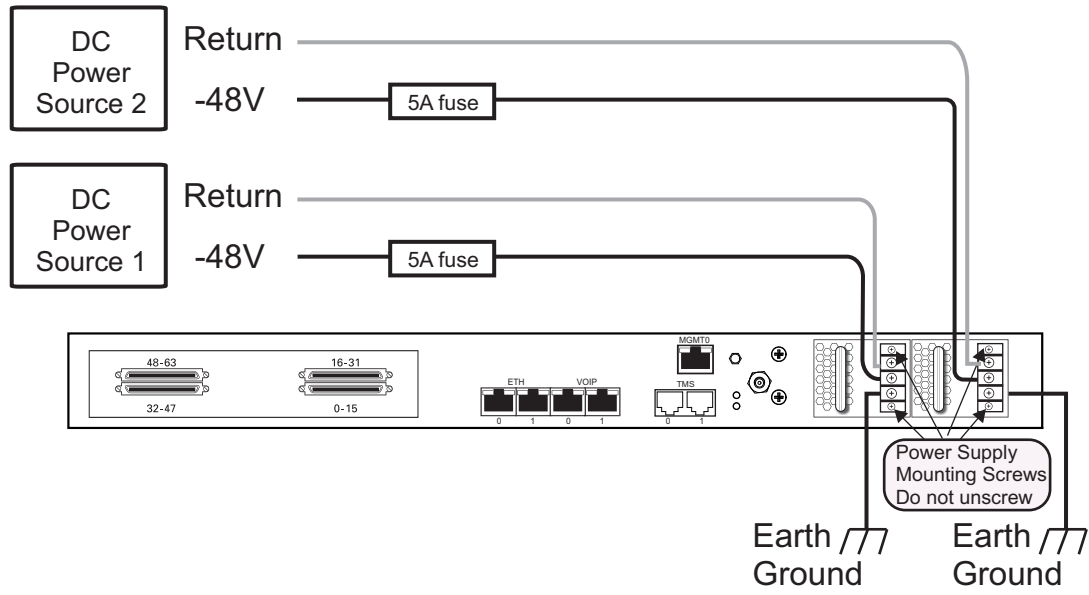

Figure 4.14 DC Power Connection
1. Connect one wire from the positive terminal of the 7800 series gateway to the return side of DC power source one, as shown in figure 4.14 on page 41.